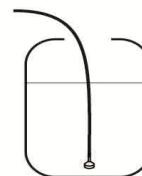

Fig.8
- 3- Insert the included dispenser tube inside the detergent or rinse aid tank. (if available). (Fig.8)
Setting of rinse aid dispenser is performed by adjusting the screw accessible after removal of front panel, under the tank door. (see Fig.8)